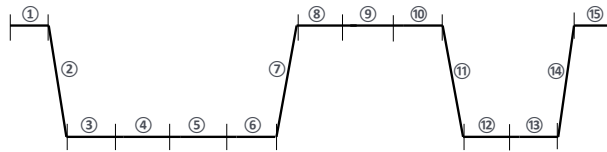

Figure 1: Sample Input to External Interrupt
- Microcontrollers often provide several different ways of configuring interrupt triggering, such as *level detection* and *edge detection*. Suppose the signal shown in Figure 1 was connected to a microcontroller pin that was configured as an input and had the ability to trigger an interrupt based on certain signal conditions. List the cycles (or range of cycles) for which an external interrupt would be triggered if that pin's sense control was configured for: (a) rising edge detection, (b) falling edge detection, (c) low level detection, and (d) high level detection. Note: There should be no overlap in your answers, i.e., only one type of interrupt condition can be detected during a given cycle.